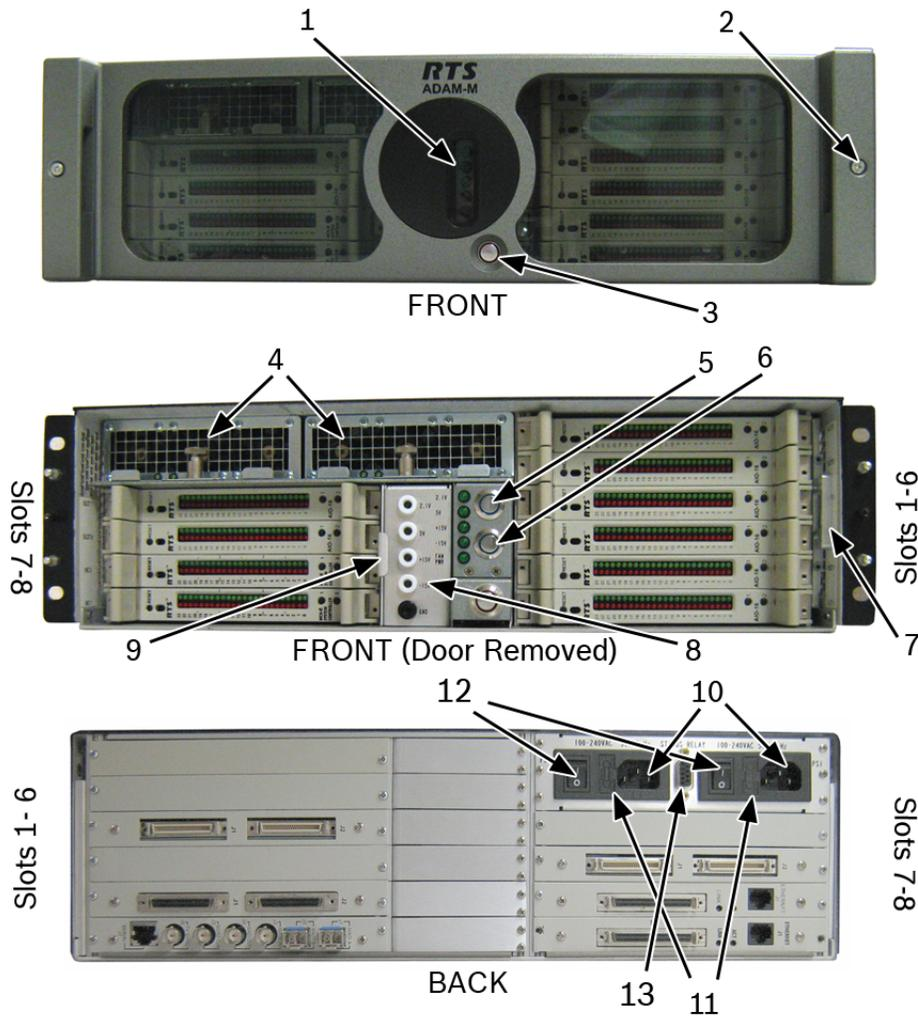

FIGURE 1. ADAM-M Reference View
It is possible to disable these alarms by engaging the Alarm Override button (see Figure 1 on page 10). If the alarm override switch is engaged, a red ring appears around the button, the alarm is being by-passed and no notification is heard. By disengaging the alarm override button, the alarm resumes its audible notification.
1. Using a flatblade screwdriver, loosen the **thumb screws** on both sides of the front door. (see Figure 1 on page 10)